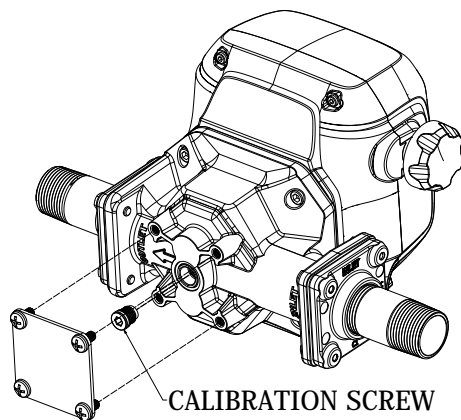

figure 4
1. To adjust the calibration of the meter, gain access to the calibration screw by performing the following: (see Figure 4)
2. Remove the back plate and the (4) screws retaining it. The O-ring seal under the plate must not be damaged.